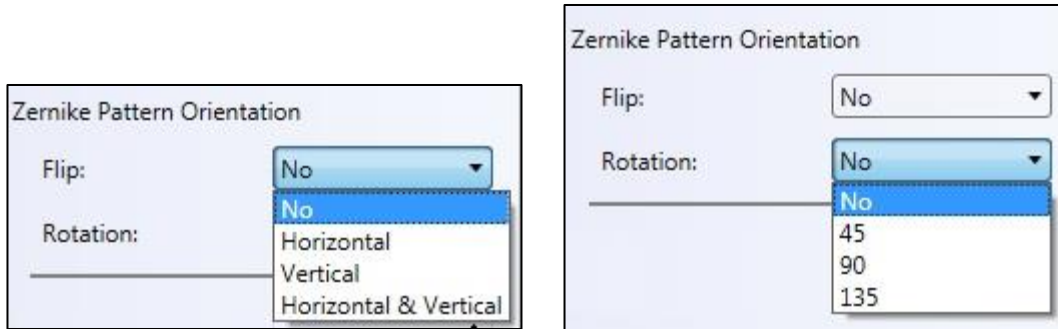

Figure 134 DMP40 or DMH40 Flip and Rotation for Zernike Patterns
As seen in Figure 134, there are four (4) flip options: **No**, **Horizontal**, **Vertical** and **Both Horizontal and Vertical**. There are also four (4) options for rotation: **No**, **45 degrees**, **90 degrees**, and **135 degrees**.